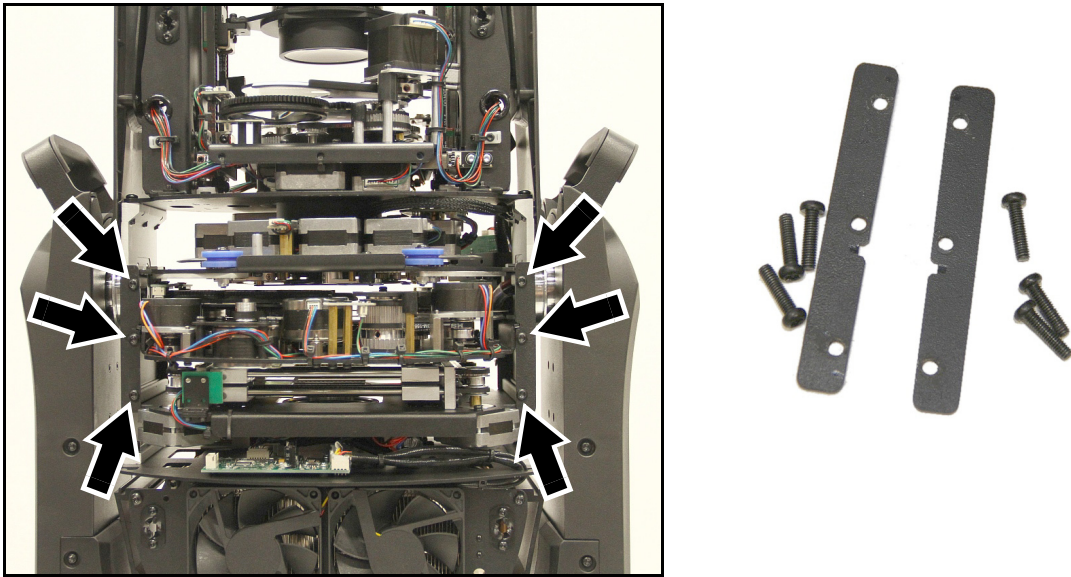

Figure 13: Removing the effects module retaining plates
5. See Figure 13. Rotate the head through 180° so that you are looking at the top of the head. Remove the six screws (arrowed) from the effects module retaining plates and keep the plates and screws for re-use. The retaining plates that you must remove from the top of the head are marked **Service here** to help avoid confusion with the similar plates in the bottom of the head.